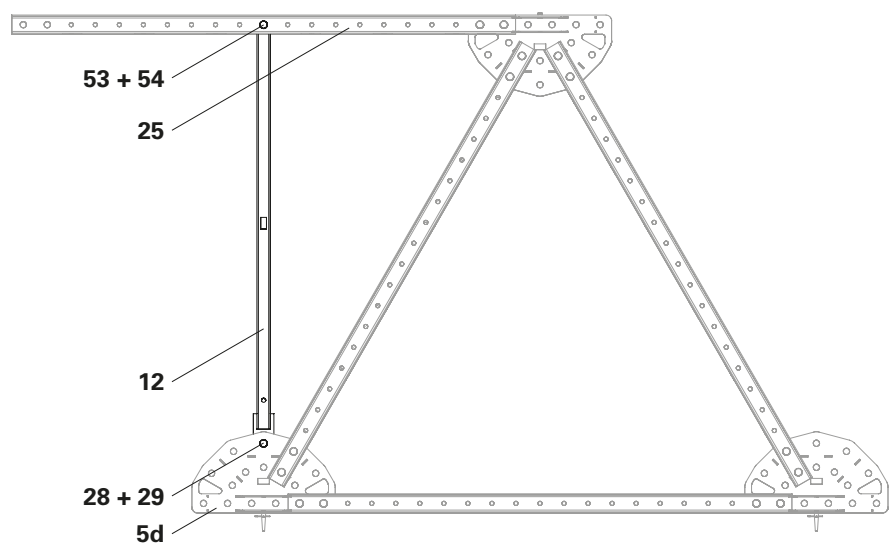

Fig. A4.11
5. Fix the Vertical Member (**12**) to the Steel Waler 262 (**25**) using 1x fitting pin Ø 21 (**53**) and secure with cotter pins 4/1 (**54**). (Fig. A4.11)